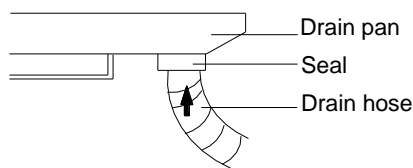

Figure 3-1-33
- (1) For determining the position of the drain hose, perform the following procedures.
- (2) Insert the drain pipe to the drain outlet of the unit and then tighten the clamp securely with tape (Figure 3-1-33).
- (3) Connect the extension drain pipe to the drain pipe and then tighten the clamp with tape.